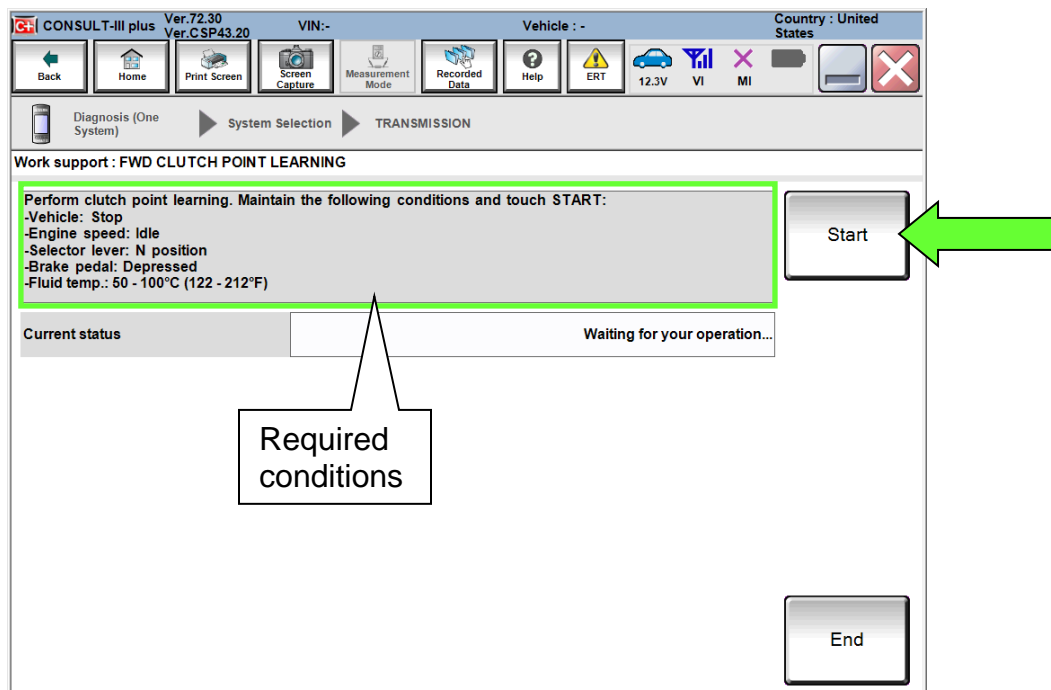

Figure 20J
9. With the engine still running and at idle, depress the brake pedal and shift the CVT into neutral (N).
- Confirm that all of the required conditions indicated in Figure 20J are being met.
11. While maintaining all conditions shown in Figure 20J and the “Current status” indicates “EXECUTING”, shift the CVT into **D** and then wait until the Current status indicates “COMPLETED”.
**NOTE:** This may take up to three (3) minutes to complete.